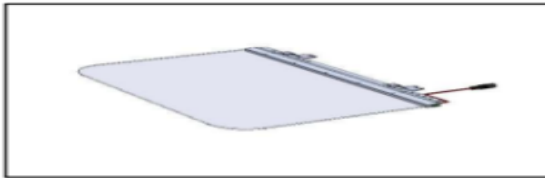

Figure 1
1. Identify the blade and lay it on a flat surface (See Figure 1).